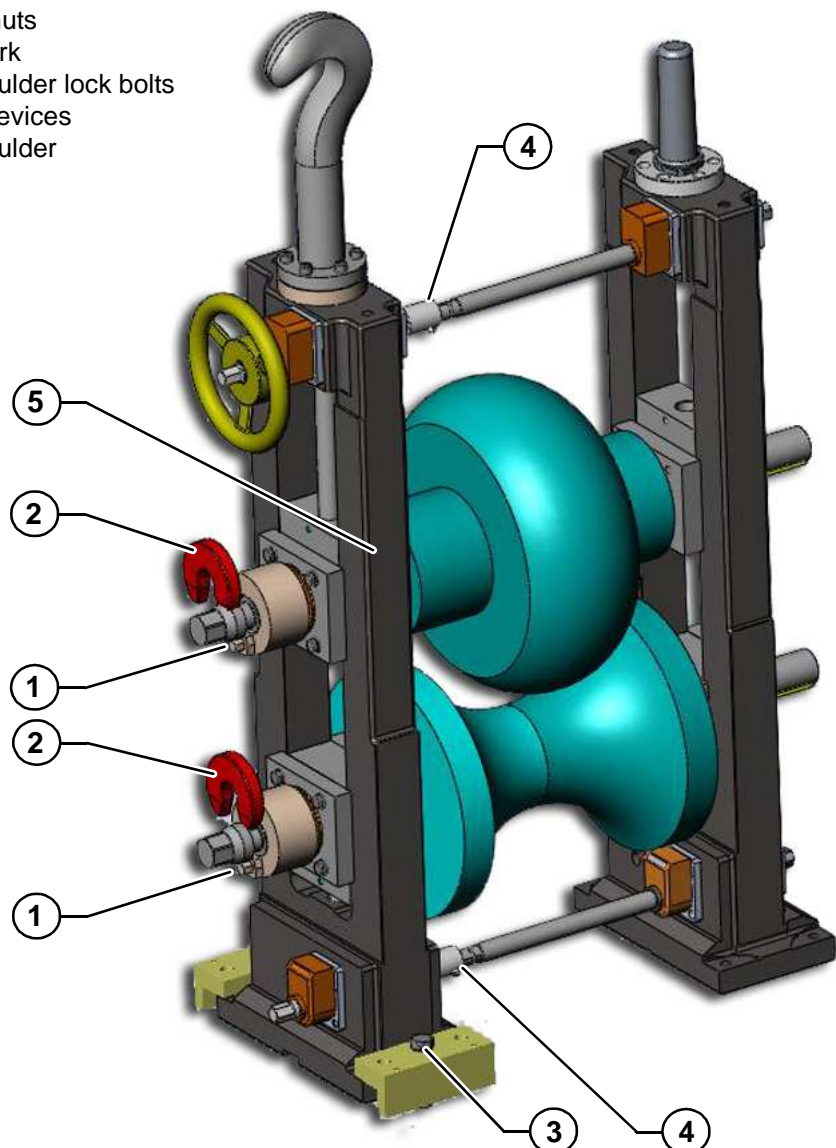

Fig. 2-A Mobile shoulder extraction: phase 1
- 1- Loosen the hydraulic nuts pos.1 in Fig. 2-A, located on the lower and upper shafts.
- 2- After removing the nut, remove the contrast fork pos.2.